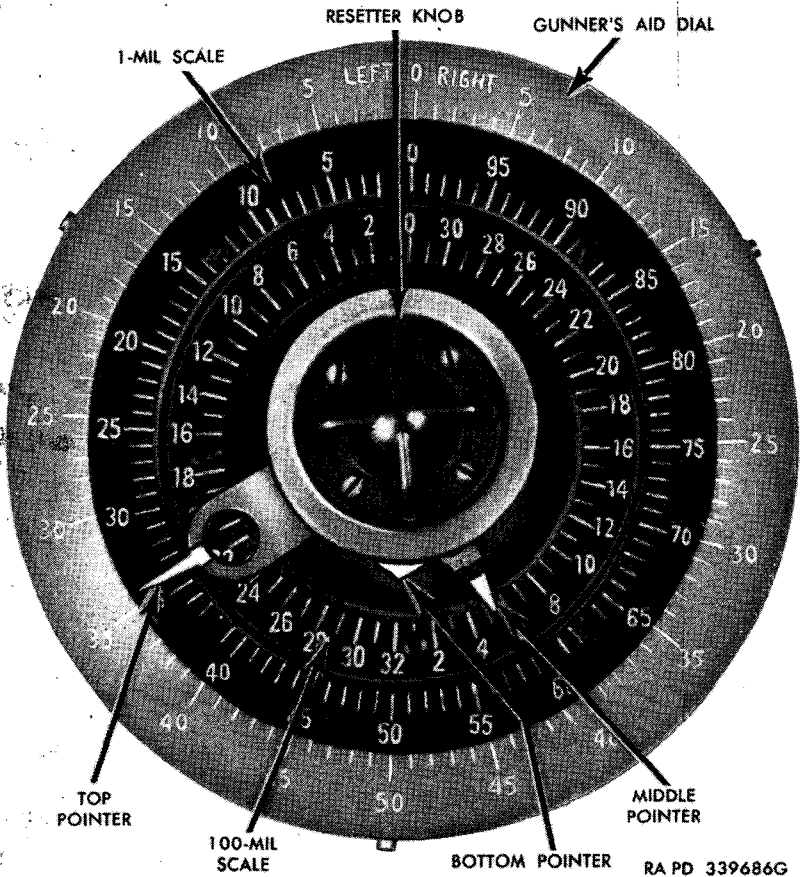

Figure 57. Azimuth indicator T24 dial.
a. DESCRIPTION. Elevation quadrant T21 (fig. 57), is used for setting elevation or depression angles for indirect fire operation of the gun. The elevation scale is graduated in 100-mil intervals from minus 200 to plus 600 mils and numbered every 200 mils from minus 2 to plus 6. A level vial mounted on the quadrant moves with the scale index when elevation or depression angles are set. The quadrant moves with the gun so that when the level bubble is centered by elevating or depressing the gun, the gun is aimed to the elevation set on the scale and micrometer. A reflector set at 45 degrees over the level bubble allows viewing the centering of the bubble more readily.